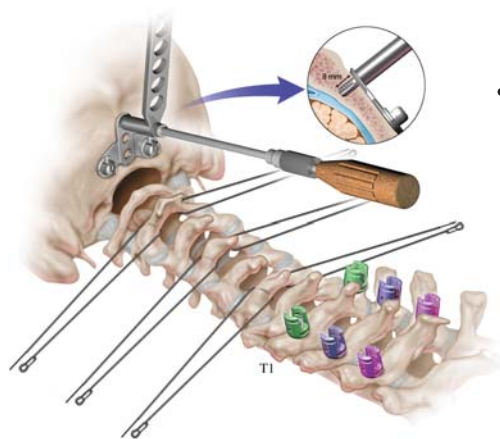

Figure 15
- The pilot hole is then tapped with a 4.5mm Tap (Figure 15). For difficult anatomy, a Minimal Access Tap with a universal joint is available.